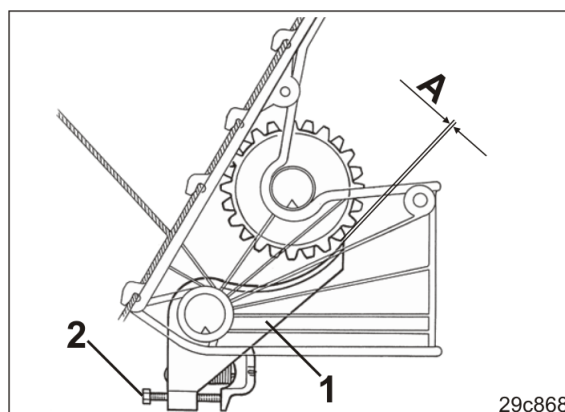

Fig. 235
3. Check that the bottom flaps (Fig. 235/1) are easy to move.
The distance "A" (Fig. 235) between the bottom flap and seed metering wheel is 0.1 mm to 0.5 mm.
6. Set the prescribed distance with the bolt (Fig. 235/2).